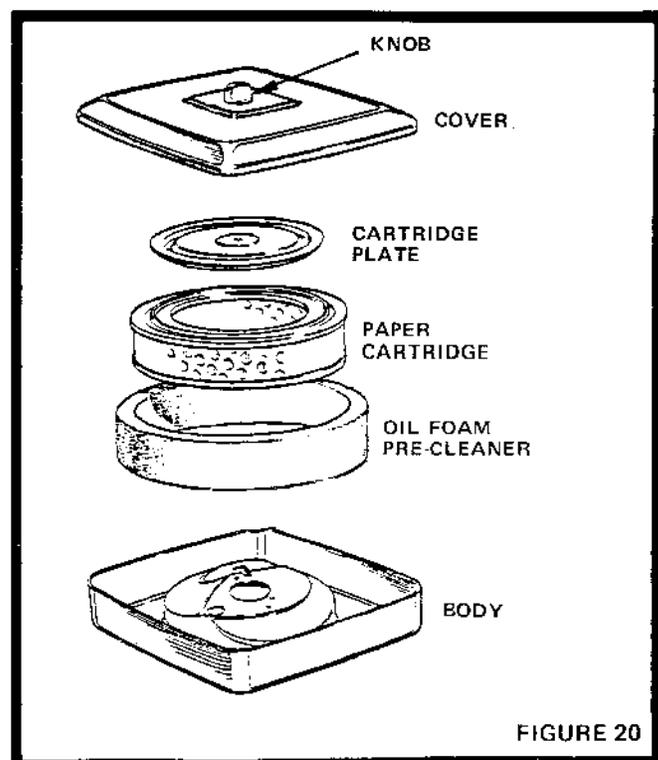

FIGURE 20
- a. Unscrew Knob (Fig. 20) to remove Cover, Cartridge Plate, Paper Cartridge and Oil Foam Pre-Cleaner.